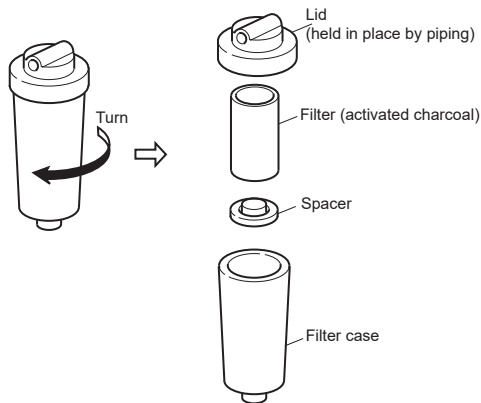

Figure 8.4 Replacing Activated Charcoal Filter
- (1) Close BV1 and BV2, then rotate filter case to remove (see Figure 8.4).
- (2) Clean inside of case with brush or the like.
- (3) As illustrated in Figure, replace filter with new one.
- (4) Reassemble using the reverse procedure, then open BV3 and BV1 to pass water through filter. Check that there are no water leaks from filter and piping, and no bubbles in drain water.
- (5) Operate for about 20 min. then confirm that free available chlorine analyzer reading is near zero.
- (6) Close BV3 and open BV2 ball valve.